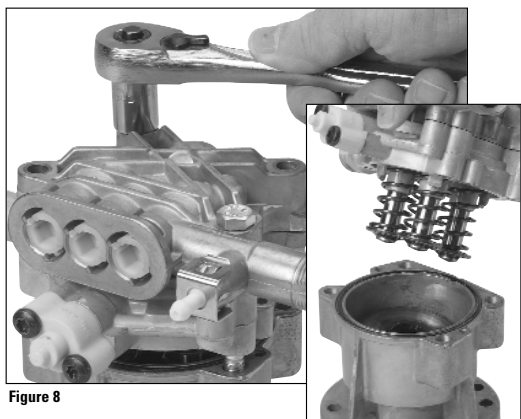

Figure 8
(figure 8)
2. Remove piston housing. (figure 8 inset)